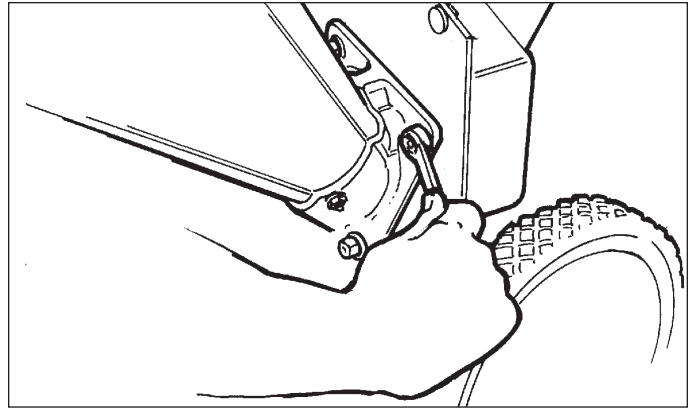

Figure 1. Installing the Chipper Cone
1. See figure 1. Position the chipper cone assembly base over the three 5/16-18 threaded studs protruding from the engine plate, and attach using (3) 5/16-18 whiz nuts.